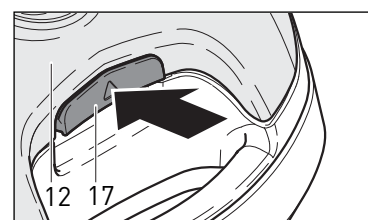
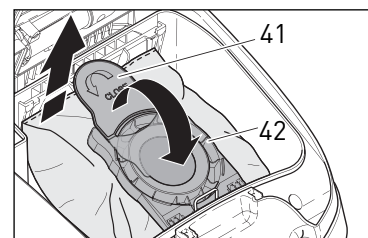
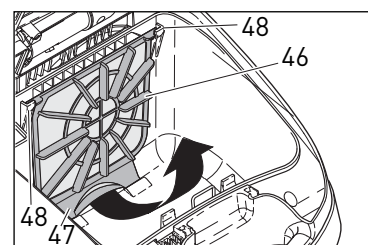

Figure 20
Figure 21
Figure 23
## Changing the Filter Bag - Figures 20, 21 & 22
To change the filter bag (40), lift the filter bag release catch (17, figure 20) then lift open the filter bag cover (12). Seal the used filter bag with the sealing cap (41). Tilt the green sealing plate collar up (42, figure 21) and lift the bag out. Slide the front of the sealing plate (42) of a new bag vertically into the bag holder (43, figure 22). Line up the sealing plate so that the U-shaped metal spring (44) is positioned in the slot (44) of the collar and tilt it back into place. Close the cover, making sure it snaps shut completely. The cover will not close if the bag is inserted improperly. Do not re-use the filter bags. **Note:** the nature of the contents of the filter bag will affect the point at which it needs changing. Fine dust may require an earlier change even though the bag is not full. Fluff or hair allows air to pass through easily, so the filter bag may overfill before the “bag full” indicator turns orange.
## Changing the Pre-motor Filter - Figure 23
The pre-motor filter (46) needs to be changed when it becomes extremely dirty or clogged with dust, or after approximately 10 to 20 filter bags have been used. To change the pre-motor filter, lift the filter bag release catch (17, figure 20), lift open the filter bag cover (12) and remove the filter bag. Grasp the tab at the bottom of the filter (47, figure 23) and pull the filter out and up. When the filter is horizontal, lift it out of the holder (48). Insert the new filter into the holder horizontally (48) then swing it downward until the tab (47) locks into place. Replace the filter bag and the filter bag cover.
|                                                                                            | 3. Pre-motor filter not properly inserted.                                  | 3. Remove the filter bag and make sure the pre-motor filter is seated firmly in place (see pg. 11, figure 23).                    |